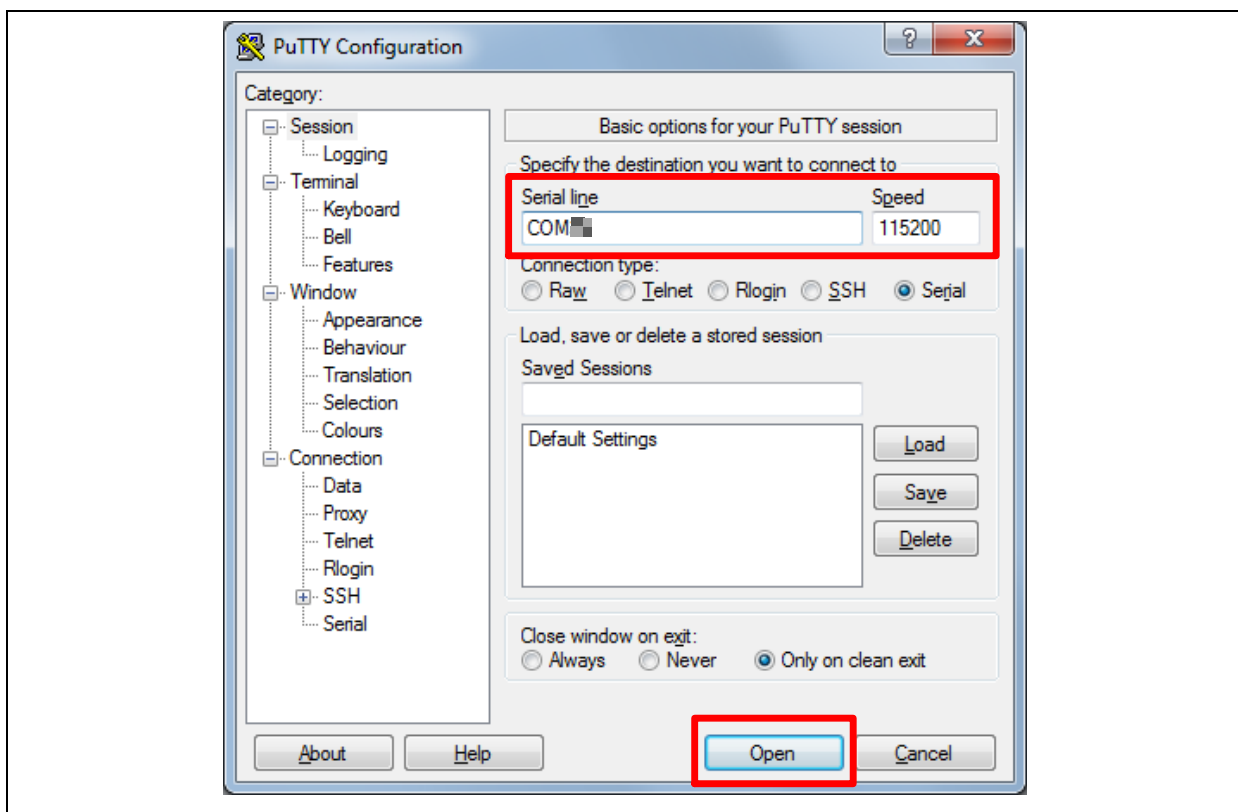

Figure 3-14 PuTTY Session Setting
4. Open a serial port terminal, PuTTY for example, to print out debug message. Set the speed to 115200. Figure 3-14 presents the PuTTY session setting.